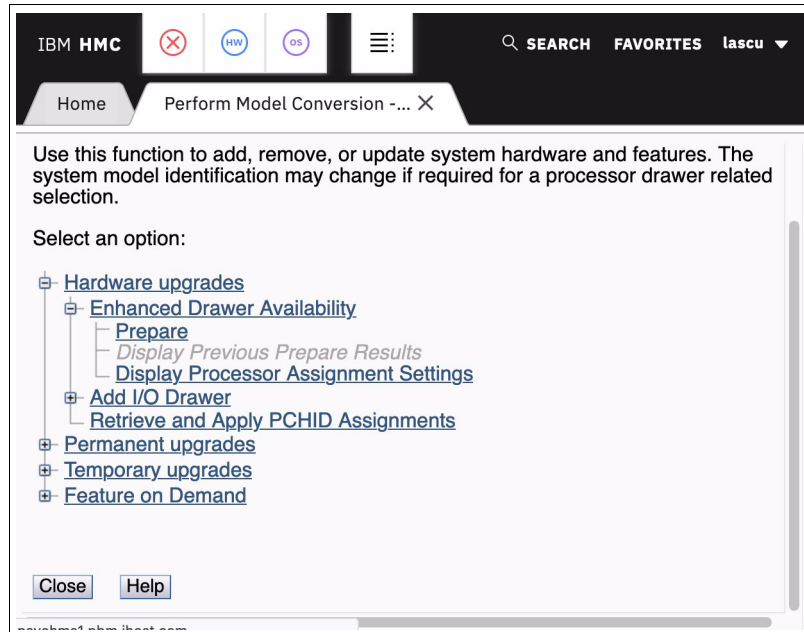

Figure 9-7 Clicking Prepare for Enhanced Drawer Availability option
For the EDA process, this phase is the preparation phase. It is started from the SE, directly or on the HMA, by using the Single object operation option on the Perform Model Conversion window from the CPC configuration task list, as shown in Figure 9-7.
The preparation step can be run without performing a drawer replacement. You can use it to dynamically adjust the operational configuration for drawer repair or replacement before IBM SSR activity. The Perform Model Conversion window in you click **Prepare for Enhanced Drawer Availability** is shown in Figure 9-7 on page 401.
5. Repeat the step that is shown in Figure 9-7 on page 401 to ensure that the required conditions are all satisfied.